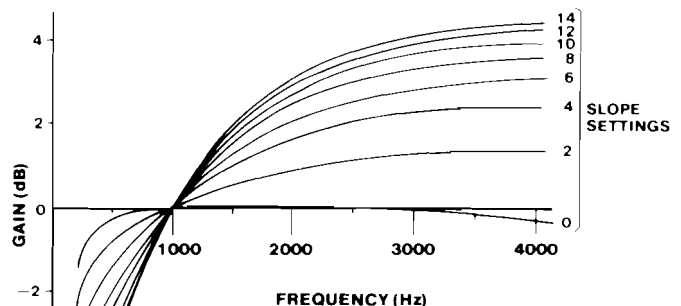
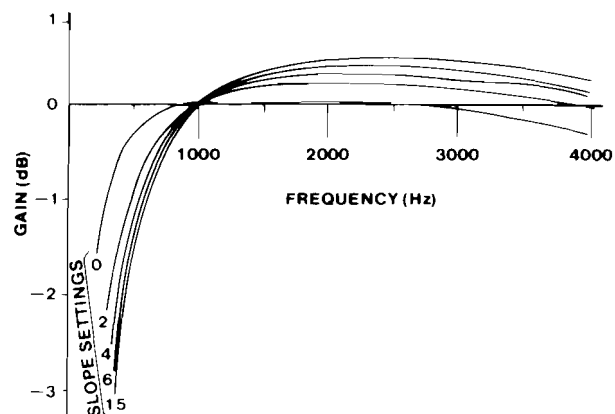

figure 5. Typical response curves for receive equalizer in slope mode, nonloaded cable
figure 6. Typical response curves for receive equalizer in slope mode, loaded cable
2.09 Figures 5 and 6 show typical response curves for the 309B-equivalent equalizer in the slope mode. Figure 5 shows the curves for nonloaded cable, while figure 6 shows the curves for loaded cable. For comparison purposes, all frequency-response curves in both figures are drawn with the same 0dB-gain reference point (1004Hz). Actually, all of these curves except those for a *SLOPE* switch setting of 0 are raised above the 0dB level at 1004Hz by as much as 11.4dB. The exact amount by which a particular curve is raised depends upon the *SLOPE* and *NL* (nonloaded/loaded) switch settings selected. These amounts are listed in table 1.